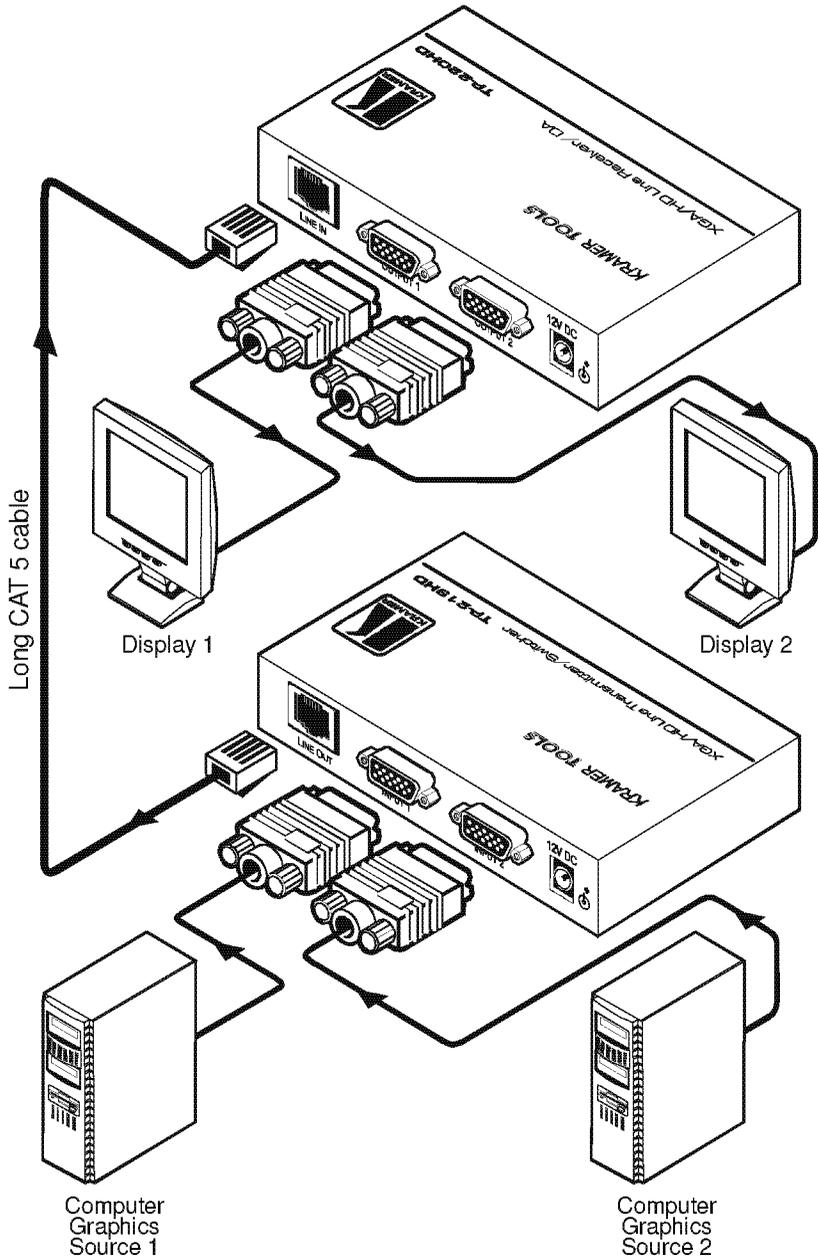

Figure 7: Connecting the TP-219HD / TP-220HD XGA System
To connect the **TP-219HD** to the **TP-220HD**, as the example in Figure 7 illustrates, do the following:
6. Connect the 12V DC power adapter to the power socket and connect the adapter to the mains electricity on both7 the **TP-219HD** and the **TP-220HD** (not shown in Figure 7).